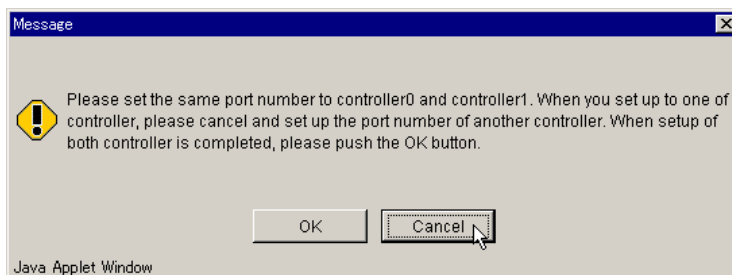

Figure 9.16 Message Dialog Box
6. When the following confirmation message displays, click **Cancel**. See Figure 9.16.